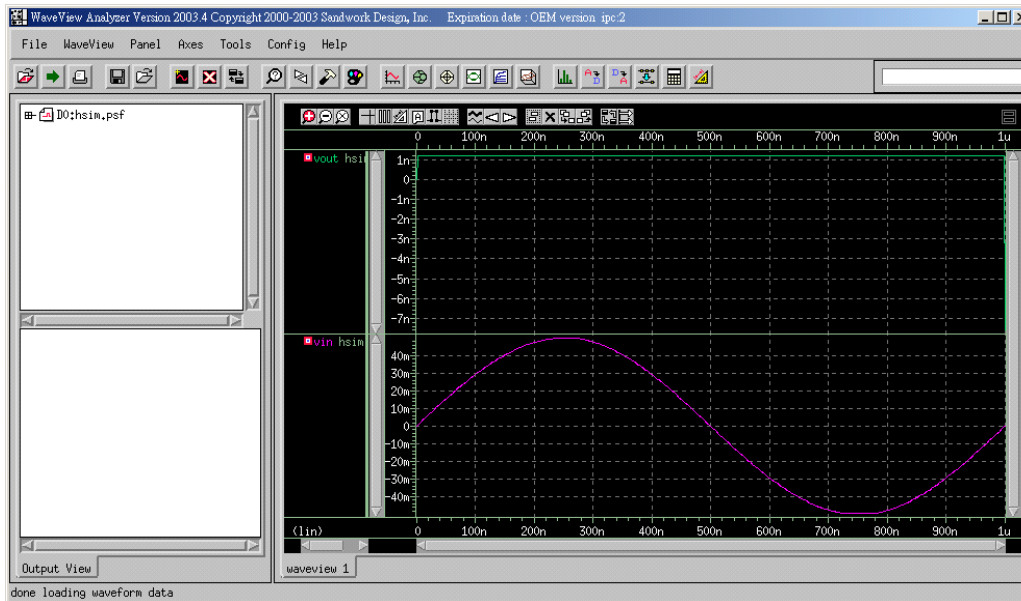

Figure 62 Virtuoso Schematic Editor Window Showing a Selected Signal Plotted in WaveView Analyzer
4. Select the signal to be plotted by clicking VIN and then press Escape to display the waveform as shown in Figure 62.